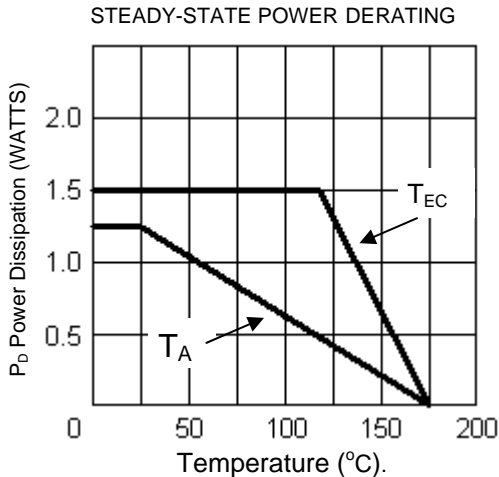

FIGURE 1 Typical Zener Impedance vs Zener Current for Types Shown
- Power dissipation at 25°C: 1.5 watts (also see derating in Figure 1).
- Steady-State Power: 1.50 watts at end-cap temperature $T_{EC} \leq 115^\circ\text{C}$, or 1.25 watts at $T_A = 25^\circ\text{C}$ when mounted on FR4 PC board and recommended footprint as described for thermal resistance (also see Figure 1)